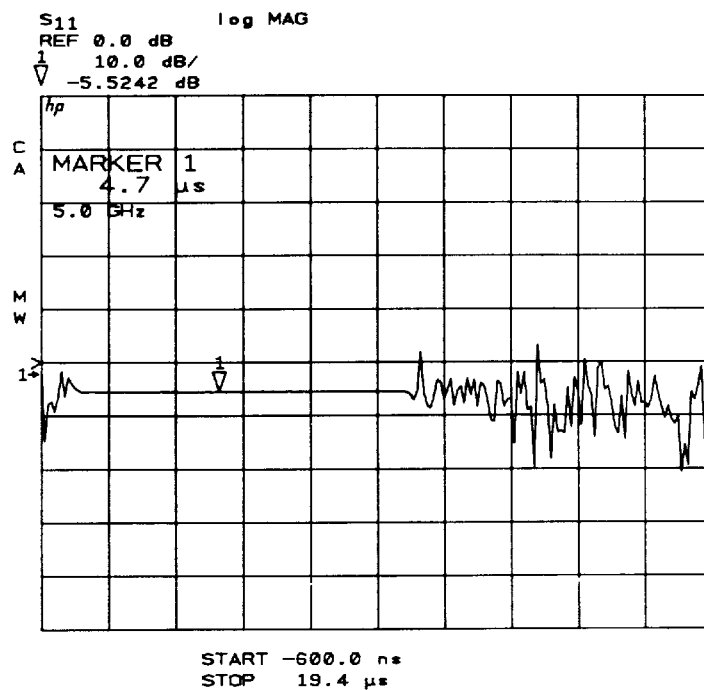

Figure 3-17. Minimum Time Span, Resolution Period = 100 ns
- Connect the Device under Test. With the pulse width set, connect the device under test. Figure 3-17 shows the response of the device to the pulsed-RF stimulus at the current frequency.